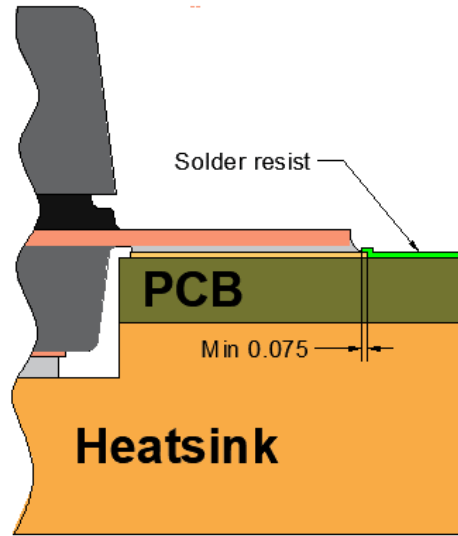

Figure 13. SMD cross section view of a straight leads package
- Solder mask defined (SMD) the solder mask overlaps the underlying metal pad, which is slightly larger than the solder mask opening (Figure 13).